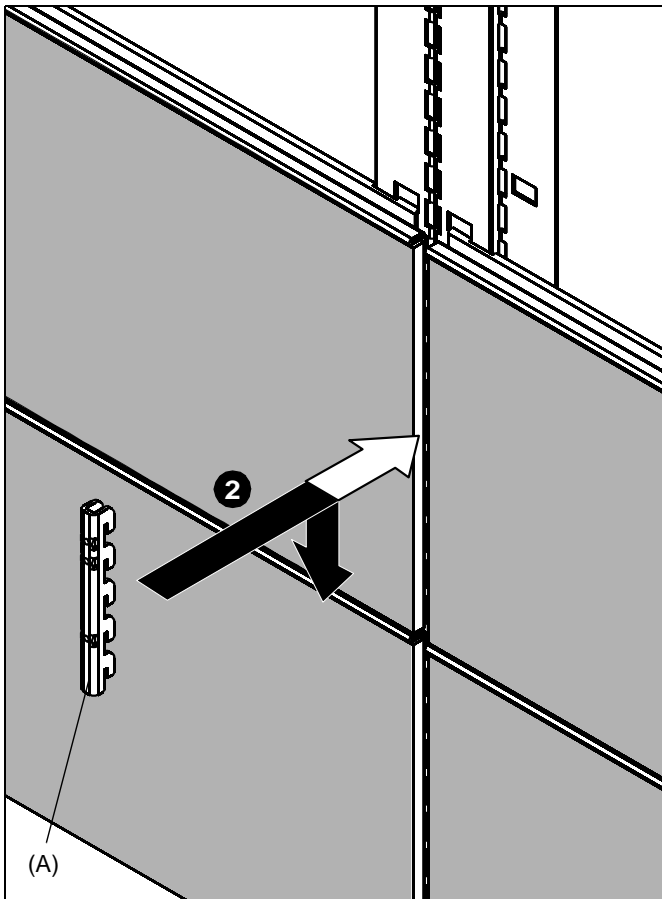

Figure 1
2. Orient wall bracket (A) and install five tabs on wall bracket into five slots in wall support. (See Figure 1)